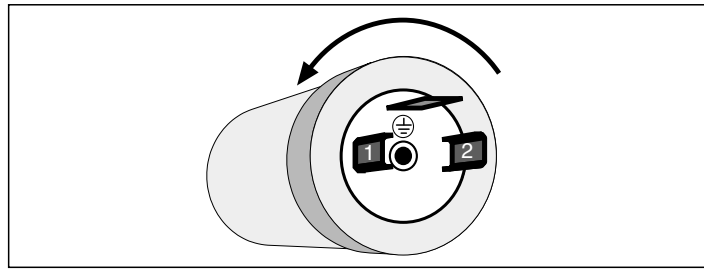
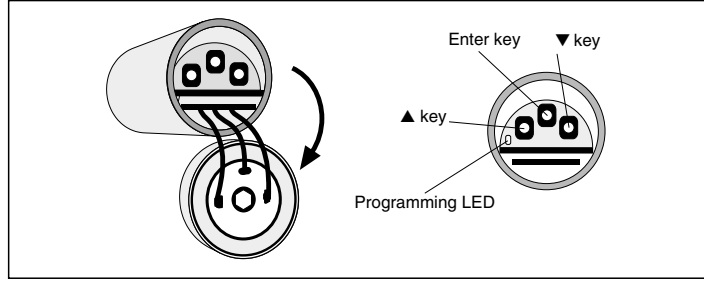

Fig.5
Fig.6 Key and LED description
- 2) Unscrew the plastic ring nut at the bottom of the transmitter without turning the faston connector (see fig.5). Behind the plastic ring nut there is the calibration circuit with the keys and the LED as shown in fig.6.